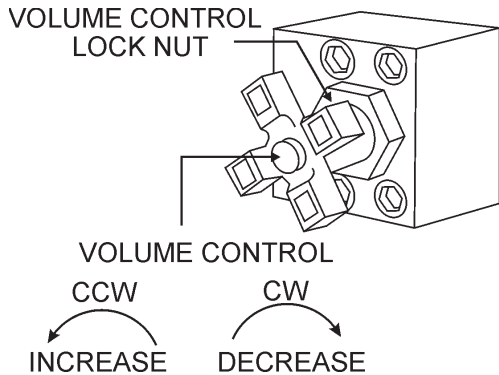

Figure 24. Volume Control
7. Turn the Volume Control (Figure 24), **lock nut** counterclockwise (CCW) to release the volume control knob.